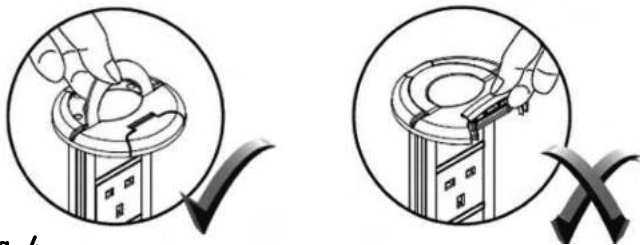

Fig. 4
- Always use the handle to raise/lower the product (see Fig. 4)